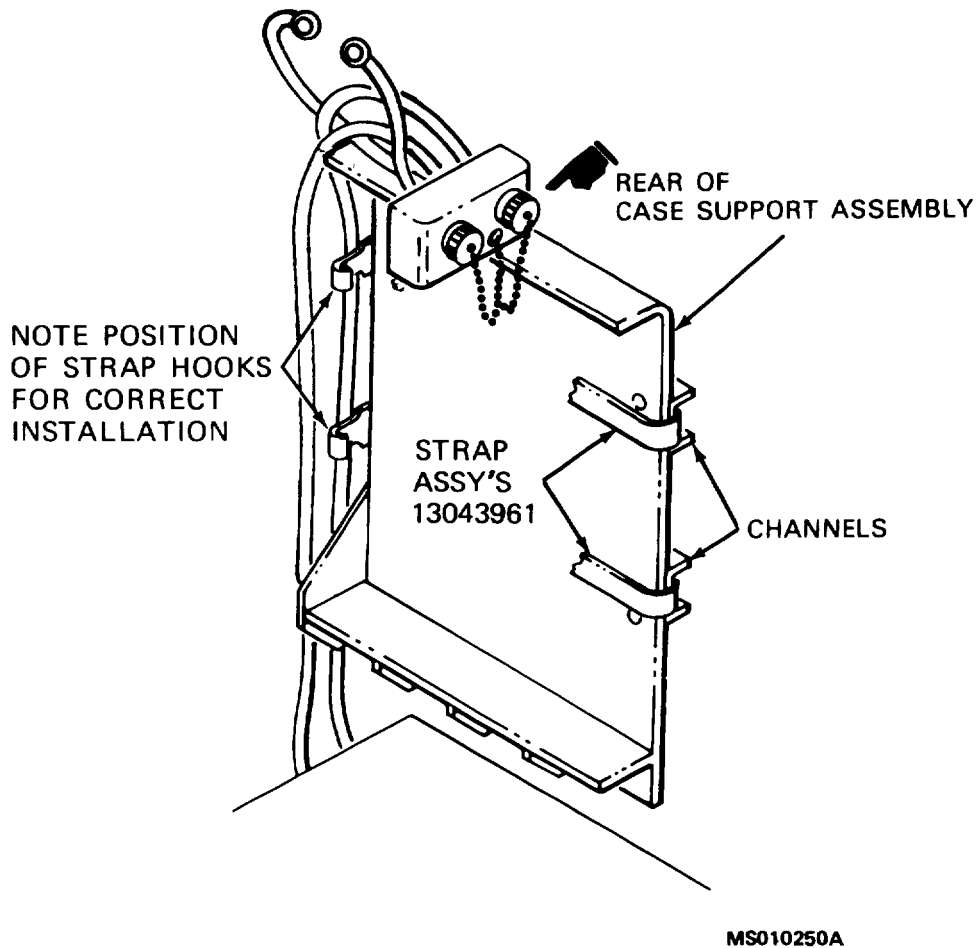

FIGURE 3-7. RIGHT SIDE OF CASE SUPPORT ASSEMBLY
o. Place straps in the two channels on the back side of the support, insuring the locking clamps are on the right side as shown in figure 3-7 and with strap hooks facing in towards the support. Mount the support containing the straps on the vehicle wall using six screws shown in figure 3-6.